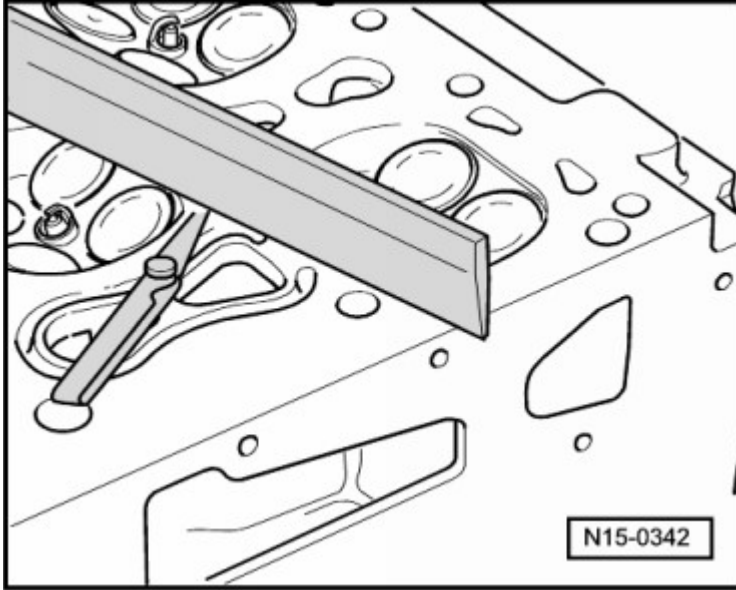

Fig. 9: Checking Cylinder Head For Distortion
- Check for distortion **Fig. 9**